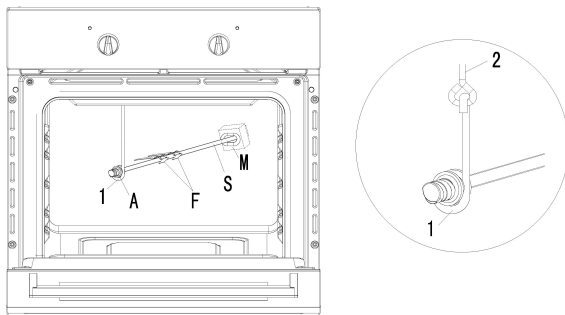

Fig.10
- Fit the knobs protection as shown in (fig. 10)
- Fit the end of the spit into the motor M at the back of the oven (fig. 10).